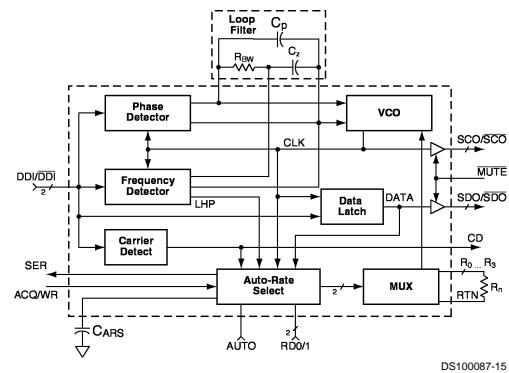

FIGURE 3. Functional Block Diagram
The CLC016 Data Retiming PLL, *Figure 3*, has three main functions: Frequency Detector (FD), Phase-Locked Loop (PLL) and Auto-Rate Select (ARS).
The external Loop Filter shown in *Figure 3* is made up of passive components  $R_{BW}$ ,  $C_Z$ , and  $C_P$ . This external loop filter controls the PLL dynamics and acquisition time.